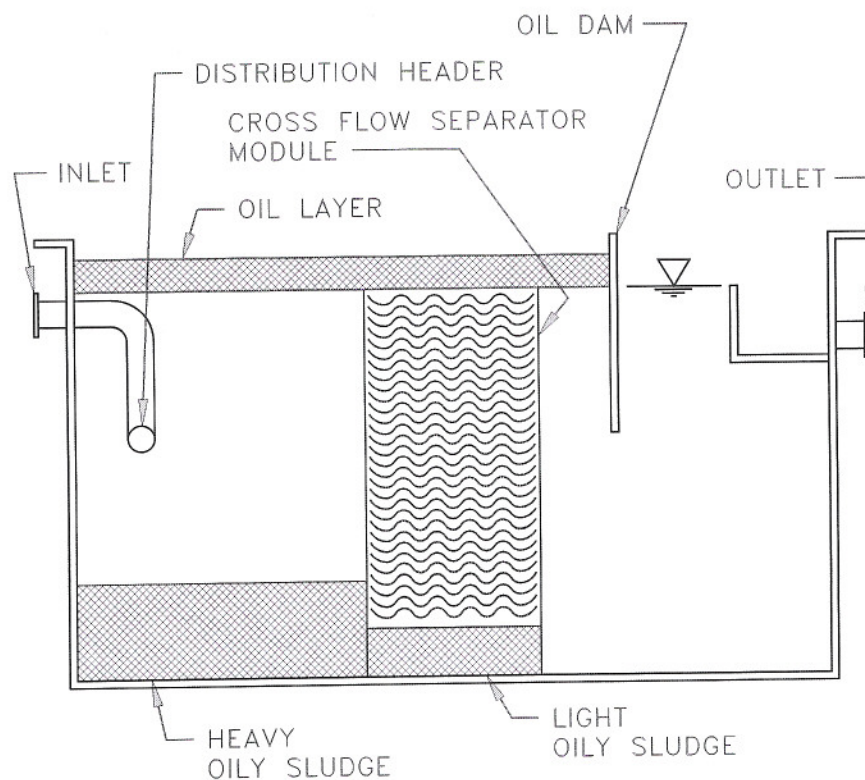

Figure 1
1. Free oil. This contaminant is almost always found in stormwater runoff from urban areas as well as commercial and industrial sites. Gravity type oil/water separators as shown in Figure 1 effectively remove free oils.
2. Heavy metals. These contaminants will also be effectively removed in a gravity type oil/water separator. See also Figure 1.